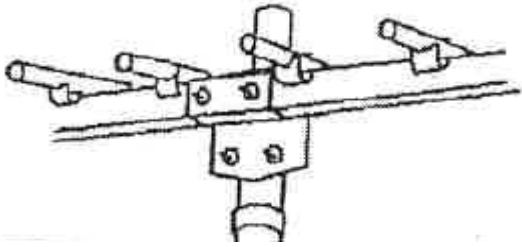

Figure 3: Mounting Detail
3. Loosely assembly the dual 'U' bolt mounting bracket onto the crossarm as shown in Figure 3.